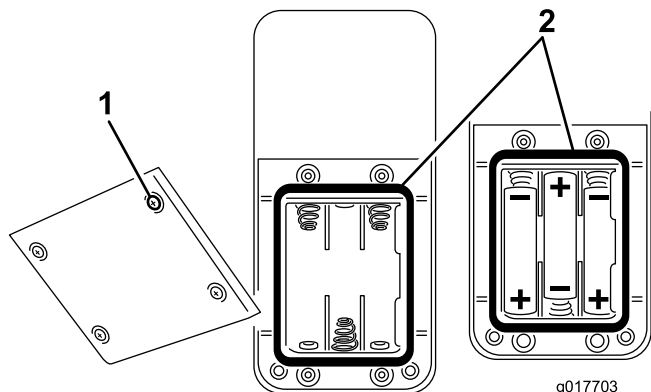

Figure 40
2. If installing batteries in an empty battery compartment, install three fresh size AAA batteries. Be sure to position the batteries as shown in Figure 40.
3. If replacing expired batteries, remove the old batteries and install three fresh size AAA batteries. Be sure to position the batteries as shown in Figure 40.